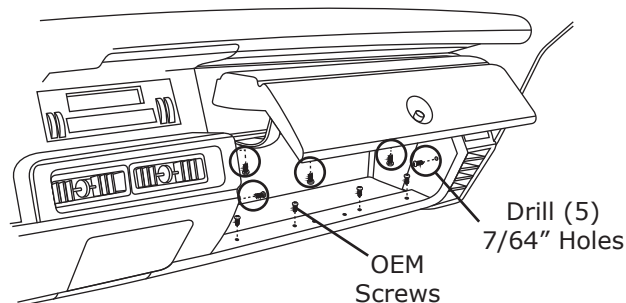

Figure 17a
6. Mark and drill (3) 7/64" holes through glove box into top of glove compartment and (1) 7/64" hole through glove box into each side of glove compartment, for a total of (5) holes (See Figure 17a, below).
7. Secure glove box in glove box compartment using OEM screws (See Figure 17a, below).